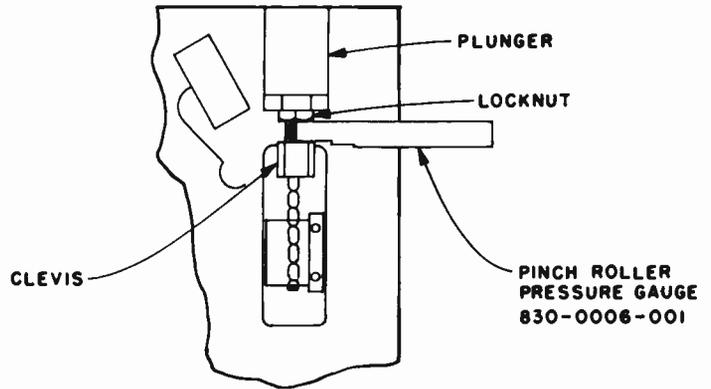

FIGURE 5-10
2. Loosen the clevis locknut and rotate the solenoid plunger and the locknut until the Pressure Roller Compression Tool will fit snugly between the shoulder of the clevis and the locknut as shown in Figure 5-10. The locknut must be finger tight against the plunger. If the tool is not available, the space between the clevis and the locknut should be .2812 (9/32) inch.